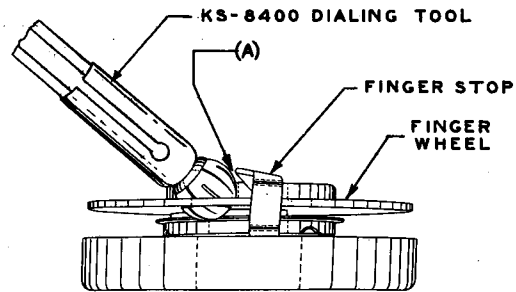

Fig. 21 — Method of Checking Overlap of Finger Stop and 0 Hole of Fingerwheel on Dials Having Sloping Face Finger Stops
(3) When the sloping face finger stop shown in Fig. 21 is replaced, the new finger stop should be located so that with the KS-8400 dialing tool inserted into the 0 hole of the fingerwheel and inclined as shown in Fig. 21 (approximately 45 degrees with the surface of the fingerwheel), there should be a clearance at (A) in Fig. 21, not to exceed 1/32 inch, between the finger stop and the surface of the dialing tool.
(4) To change the position of the finger stop, remove the card holder, the fingerwheel, the number plate, and the gasket and guard if the latter are provided, as covered in 3.01(2), (3), and (4) for the 2-, 4-, and 5-type dials, 3.01(6), (7), and (8) for the 6-type dials equipped with metal fingerwheels, or 3.01(11), (12), and (13) for the 6-type dials equipped with plastic fingerwheels. Loosen the finger stop mounting screws with the C screwdriver and shift the finger stop as required. Remount these parts and check the clearance. If the